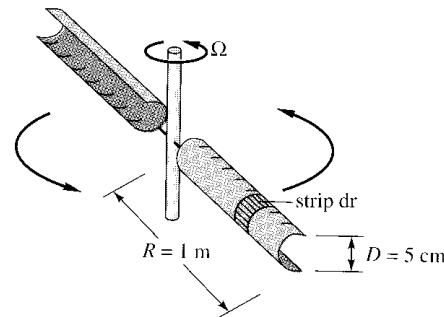

Fig. P7.94
- 7.94** A rotary mixer consists of two 1-m-long half-tubes rotating around a central arm, as in Fig. P7.94. Using the drag from Table 7.2, derive an expression for the torque  $T$  required to drive the mixer at angular velocity  $\Omega$  in a fluid of density  $\rho$ . Suppose that the fluid is water at 20°C and the maximum driving power available is 20 kW. What is the maximum rotation speed  $\Omega$  r/min?
**Solution:** Consider a *strip* of half-tube of width  $dr$ , as shown in Fig. P7.94 above. The local velocity is  $U = \Omega r$ , and the strip frontal area is  $Ddr$ . The total torque (2 tubes) is